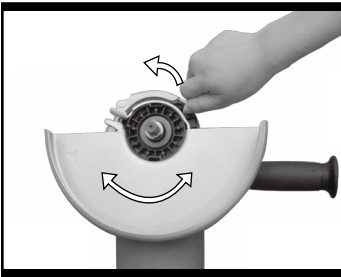

Fig. 6
7. GUARD ADJUSTMENT (See Fig. 6)